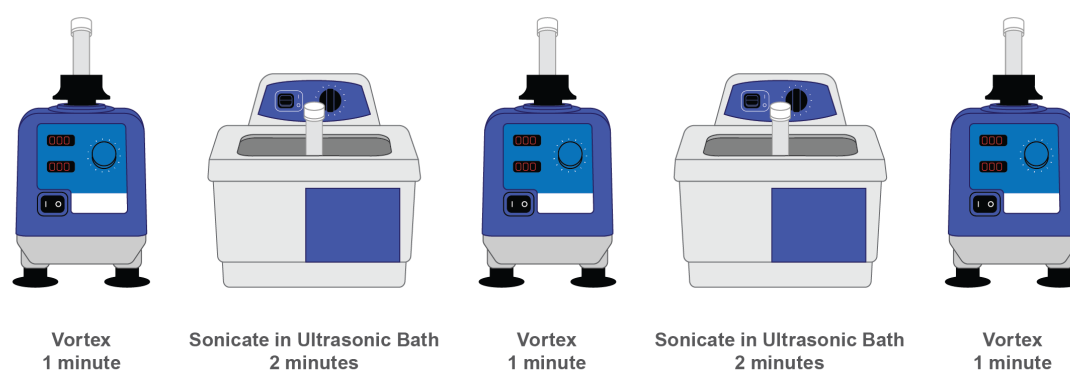

Figure 33: Fiducial preparation
1. Refer to the graphic below to vortex and sonicate the fiducials prior to use (Figure 33):
2. Once fiducials are prepared following Figure 33, **dilute fiducial stock (0.1%) to the working concentration (0.00015%) in 2X SSC-T**. A 2-step serial dilution is recommended for fiducial preparation. Accurate dilution of fiducials is critical for assay performance.